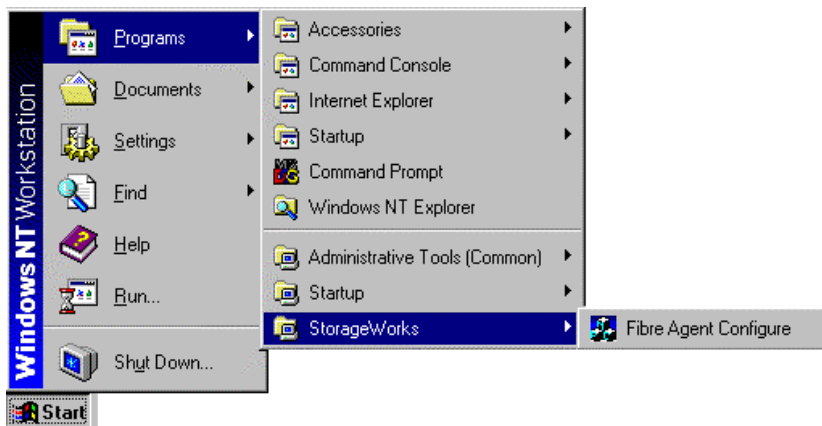

Figure 3-1. Launching the fibre channel agent configuration utility
1. Select the Fibre Agent Configure entry in *Start\Programs\StorageWorks*, as shown in Figure 3-1.